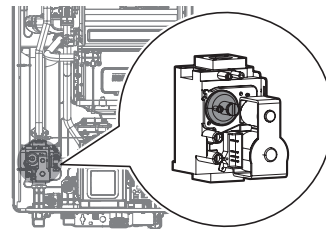

Figure 10
- c. Fully open a hot water fixture and set the water heater to operate at 1-stage MIN mode (refer to “Setting the Operation Mode” on page 105). Measure the offset value at low fire and compare it to the values in Table 3. If the offset value is out of range, the gas valve set screw will need to be adjusted. If adjustment is necessary, locate the set screw as shown in Figure 10. Using a $\frac{5}{32}$ in or 4 mm Allen wrench, turn the set screw no more than $\frac{1}{4}$ turn clockwise to raise or counterclockwise to lower the offset value.